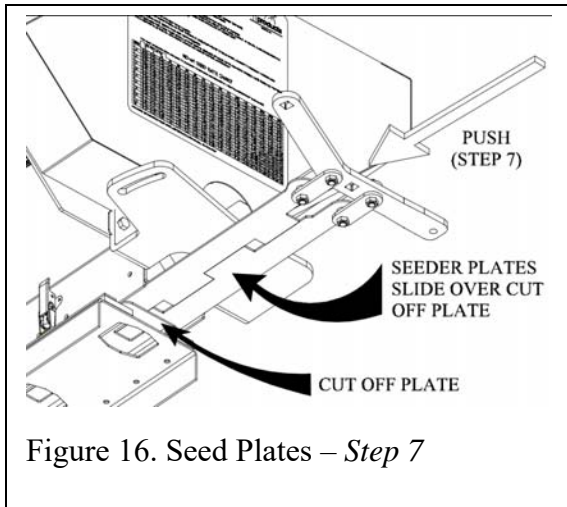

Figure 16. Seed Plates – Step 7
7. Take seed plate assembly and slide back into machine; be sure to put seed plates on top of cut off plate when starting to push them into the machine as shown in Figure 16.